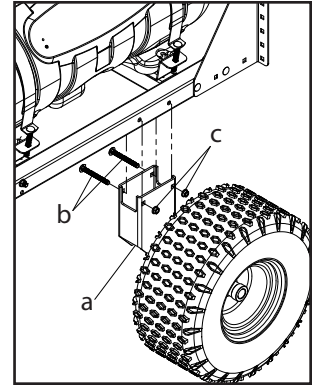

Figure 3: Installing axle bracket and wheel
4. Install the axle bracket (a) on the sprayer frame using two 3/8" x 3 1/2" carriage bolts (b) and 3/8" flange nuts (c) as shown (Figure 3).